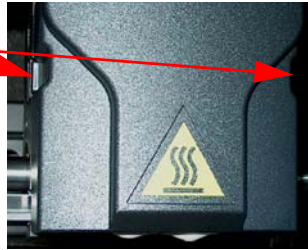

Figure 15: Removing the Head Cover
3. Remove plastic head cover by squeezing raised pads on sides of cover (Figure 15).
- Remove plastic head cover by squeezing raised pads on sides of cover. (Figure 15 on page 47)